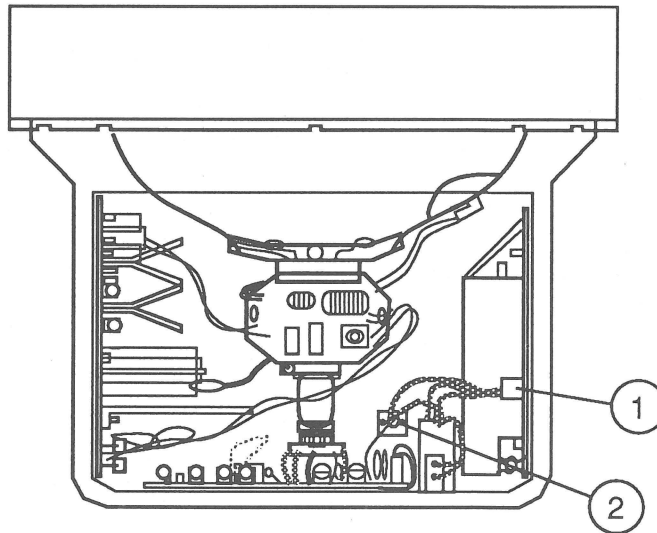

FIGURE 26
5. Disconnect the large three-wire connector from the top of the power supply (Figure 26, #1).
6. Remove the three hex nuts and washers (Figure 26, #2) that secure the three grounding wires to the metal post on the floor of the monitor.